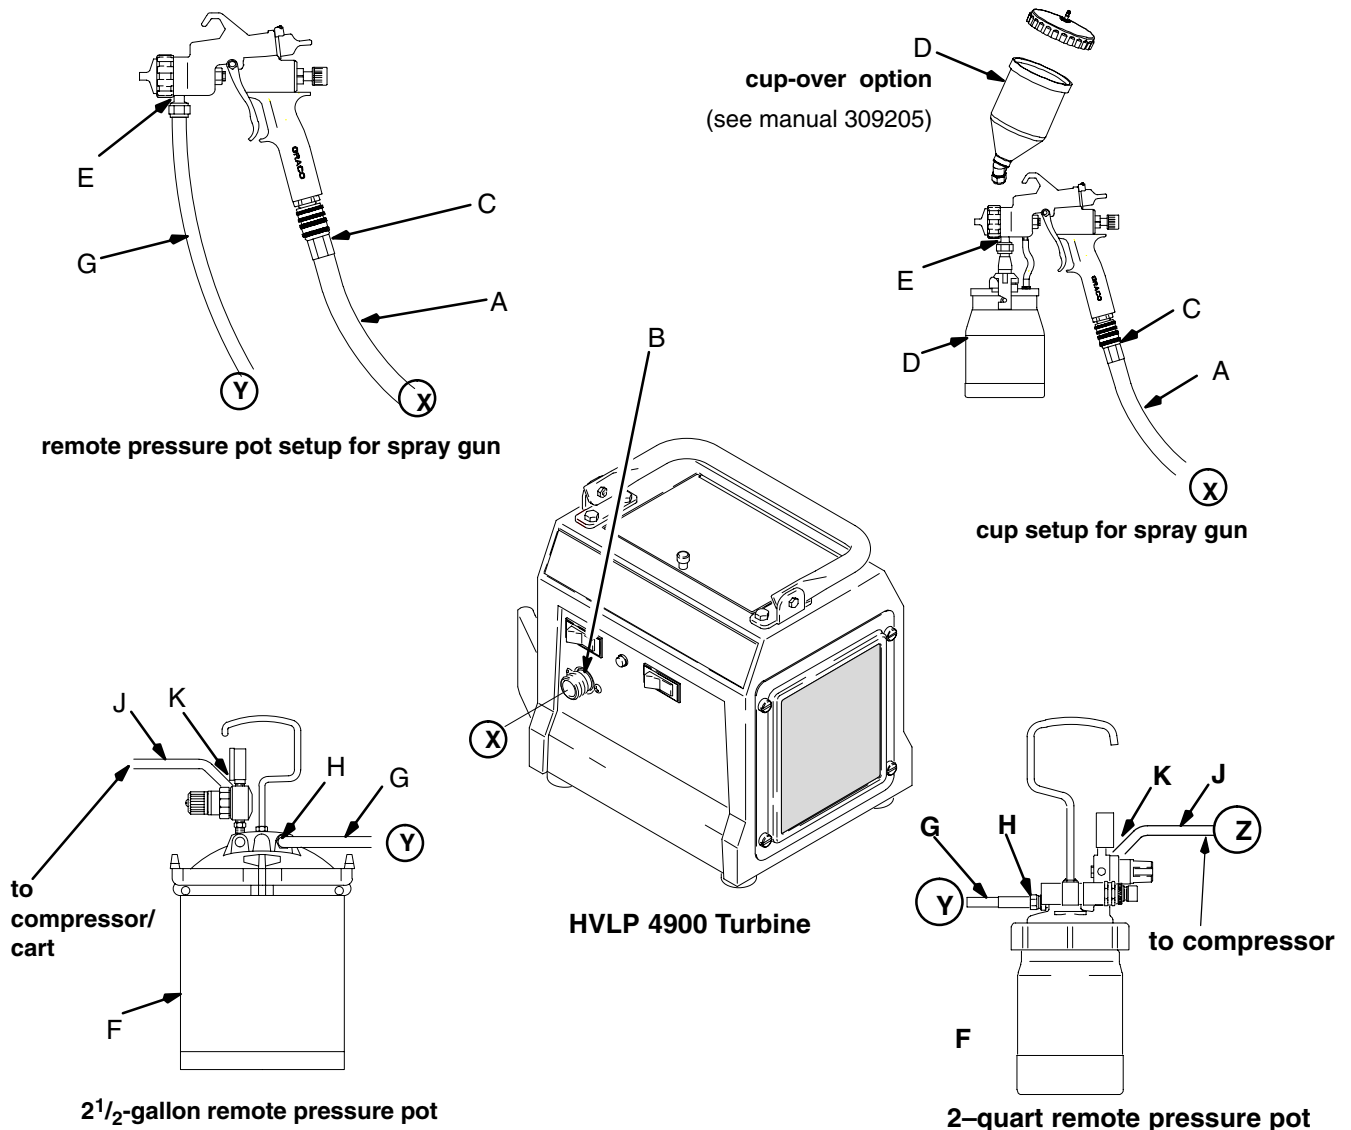

Fig. 3
HVLP Turbine Sprayers have a variety of user options. See Fig. 3.
See Fig. 3
- The circled letters in Fig. 3 indicate hose line connections.
1. Connect gun air supply hose (A) between turbine air outlet (B) and gun air inlet (C). DO NOT use wrench to tighten connections; hand tighten only. The HVLP 4900 turbine uses a quick connector at outlet (B). A wrench is not required for hose connection.
2. If using a spray gun cup (D):